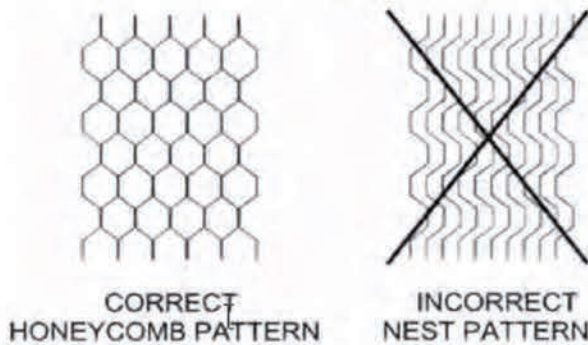

Figure 4.3 Pattern of Sides of Plate Pack
- Install all plates in the correct sequence in accordance with the general assembly drawing. The diagonal line painted on the plate pack side must reappear unbroken, and the honey-comb pattern made by the plate edges should be uniform as shown in Figure 4.3, below.